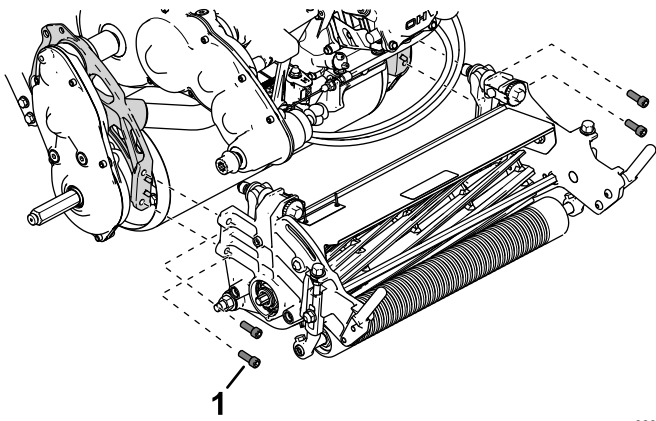

Figure 44
5. Use 4 socket-head screws to secure the cutting unit to the frame (Figure 44).